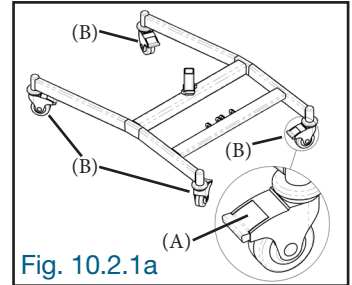

Fig. 10.2.1a
Each of the four wheels has a brake (A). Make sure that all four wheel brakes (B) are securely locked when the product is being used, adjusted, or stored (Fig. 10.2.1a).